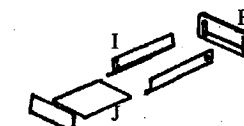

Figure 8
8. Drawer assembly (Figure 8): place the drawer-face (H) face down on a flat soft working surface. Align the two drawer sides (I) and lock the cam lock. Slide drawer bottom (J) into the grooves of drawer sides (I). Then place drawer back (J) and lock the cam lock. Repeat this step for more drawers.
9. Install the drawer rails: slide the drawer rails (K) backend into the opening of the holder (M) on the back panel (previously installed (step 7)). Then secure the drawer rail front-end with 1/2" flat head screws using the predrilled holes in the face frame. Repeat this step for each drawer rail.